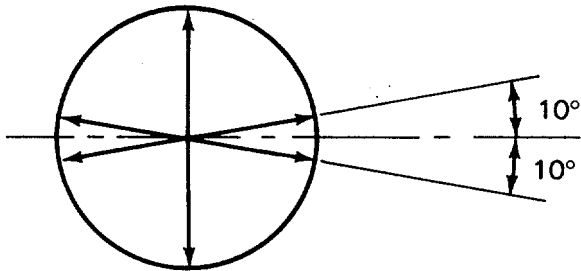

Fig. 1-7 - Main Bearing Bore Measurement
5. Check that the main bearing bore dimensions are within the minimum and maximum limits given in the Service Data. Take two sets of measurements at each bore, one set 12.7 mm (1/2") in from the accessory end of the bore and one set 12.7 mm (1/2") in from the opposite end of the bore at points shown in Fig. 1-7.